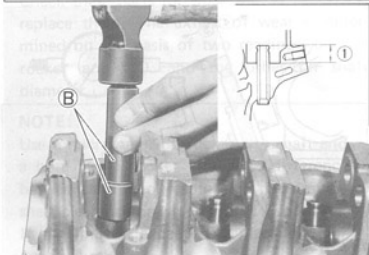

Fig. 4-60
- Heat the cylinder head uniformly to anywhere between 80° C and 100° C (176° F - 212° F) so that the head will not distort, and drive the oversize guide into the hole with the valve guide installer set (B) (09916-57310 and 09916-57320). See Fig. 4-60. Be sure to carry out this step speedily so that all guides will go into the cylinder head in steady temperature state.